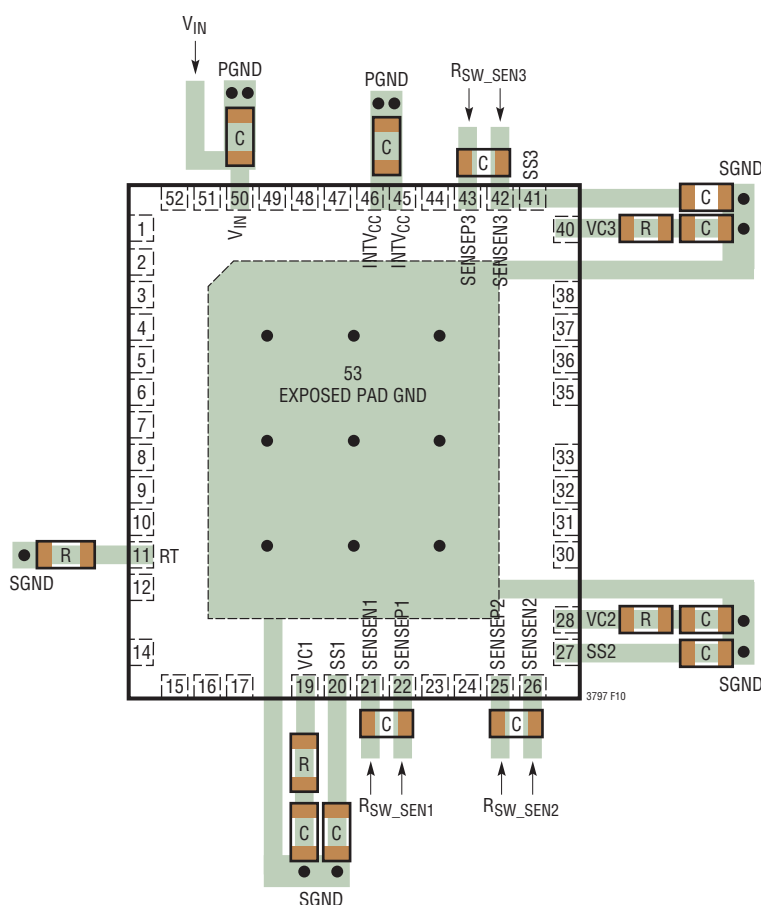

Figure 10. Decoupling Capacitors and Ground Separation
0.1 μ F ceramic capacitor between each SENSEP pin and the corresponding SENSEN pin. When used, these noise filtering capacitors should be physically located near their respective pins. Figure 10 provides an example of a PCB layout of the LT3797 (QFN), decoupling capacitors, compensation networks and ground separation.